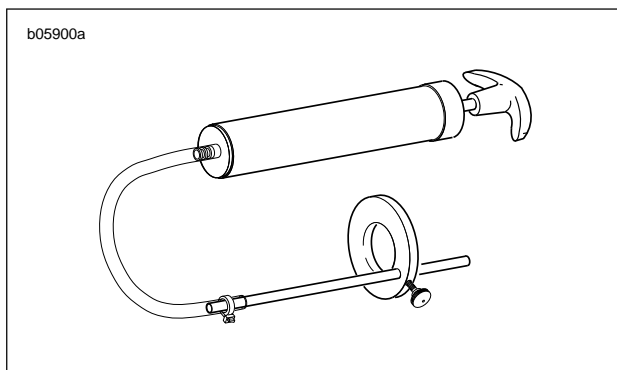

Figure 1-37. Pro Level Oil Gauge
- b. Measure distance from fork oil (4) surface to top of outer tube (1) using PRO-LEVEL OIL GAUGE (Part No. B-59000A). See Figure 1-37.